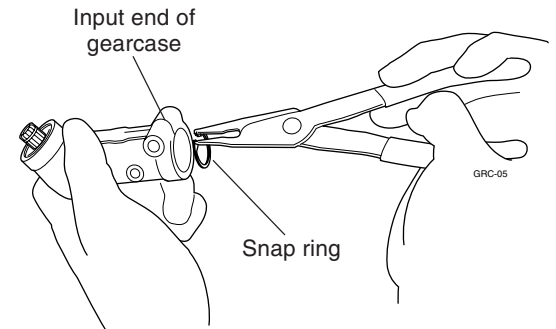

Figure 11.6 Remove the snap ring from the input end of the gearcase.
**STEP 1.** Use snap ring pliers such as Snap-On® p/n PR-23A or equivalent to remove the internal snap ring from the input (driveshaft) end of the gearcase (Figure 11.6).